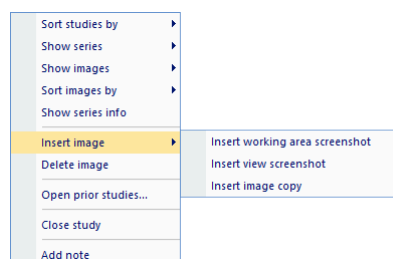

Figure 185 – Context menu of the thumbnails palette
3. Right-click to open the context menu, and select the **Insert image/Insert working area screenshot** item (see Figure 185). The screenshot of the working area is then automatically inserted at the end of the target series.
3. Right-click to display the context menu, and select the **Insert image/Insert view screenshot** item (see Figure 185). The screenshot of the current view is then automatically inserted at the end of the series.
3. Right-click to display the context menu, and select the **Insert image/Insert image copy** item (see Figure 185). The image from the current view is then automatically inserted at the end of the series.
2. Right-click to display the context menu (see Figure 185), and select the **Delete image** item. The image/group of images is then automatically deleted from the series.